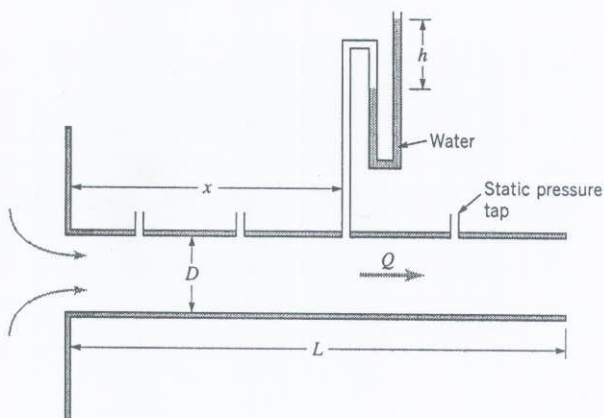

FIGURE P8.130
**Objective:** The pressure distribution in the entrance region of a pipe is different than that in the fully developed portion of the pipe. The purpose of this experiment is to use an apparatus, as shown in Fig. P8.130, to determine the pressure distribution and the head loss in the pipe entrance region.